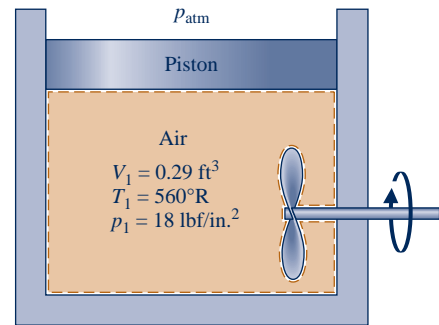

Fig. P3.134
- 3.134** As shown in Fig. P3.134, a piston-cylinder assembly fitted with a paddle wheel contains air, initially at 560°R , 18 lbf/in.^2 , and a volume of 0.29 ft^3 . Energy in the amount of 1.7 Btu is transferred to the air by the paddle wheel. The piston moves smoothly in the cylinder, and heat transfer between the air and its surroundings can be ignored. Assuming ideal gas behavior by the air, determine its final temperature, in $^\circ\text{R}$.